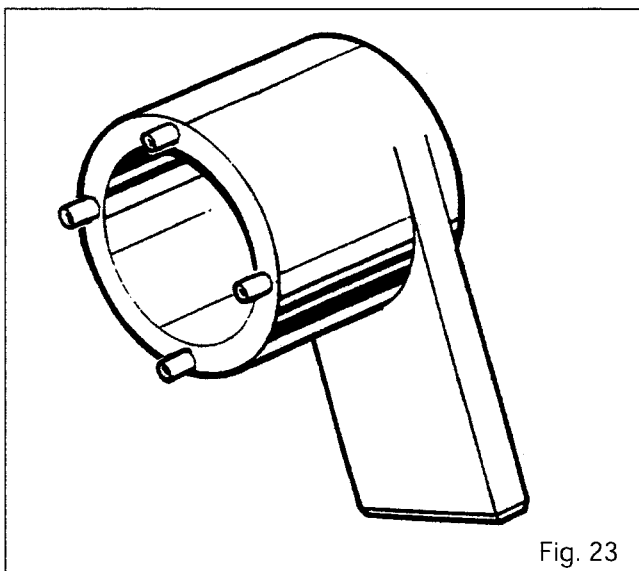

Fig. 23
**3378051M1 - Clamping tool for drive pinion nut, axles AG 155 (Fig. 23)**